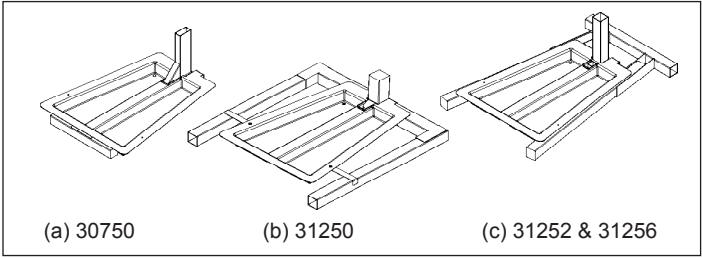

Figure 2 - Application Illustration on different models
- Place the pan onto the base of your engine stand referring to Figure 2.